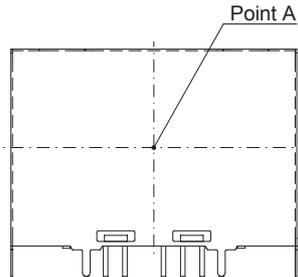

Fig.7.10 Temperature Measuring Point in the case of Forced Air Cooling
■ In the case of forced air cooling (1m/s), please have sufficient ventilation to keep the temperature of point A in Fig.7.10 at 95°C or below.